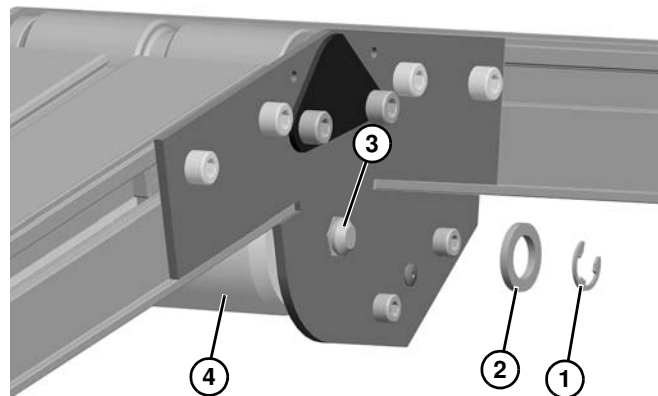

Figure 63
- a. For 2" (44 mm) through 4" (95 mm) wide conveyors, remove E-ring clip (**Figure 63, item 1**) and washer (**Figure 63, item 2**) from one side. Remove pulley shaft (**Figure 63, item 3**) and pulley (**Figure 63, item 4**).